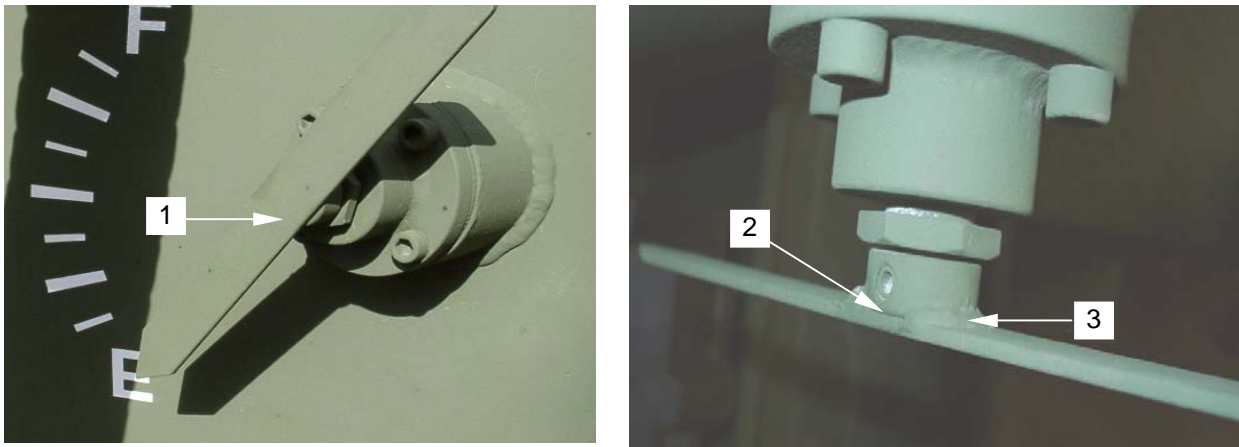

Figure 1. Removing Arrow Indicator
1. To replace the float level indicator packing or exterior arrow indicator (**figure 1, item 1**), proceed as follows:
- a. Loosen the setscrew (**figure 1, item 2**) on the float level indicator sleeve (**figure 1, item 3**) and remove the float level indicator (**figure 1, item 1**).